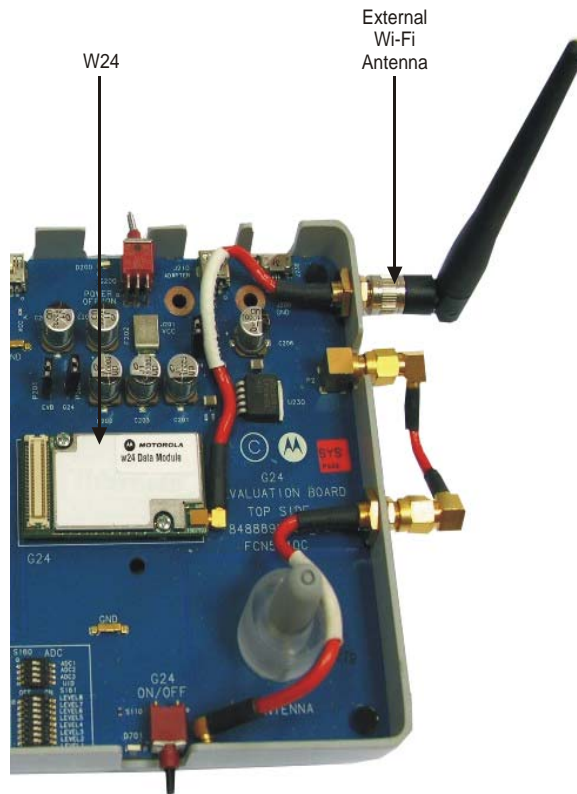

Figure 2-11: Wi-Fi Antenna Connection
- Connect a Wi-Fi external antenna to the **Wi-Fi** connector (Figure 2-11)..